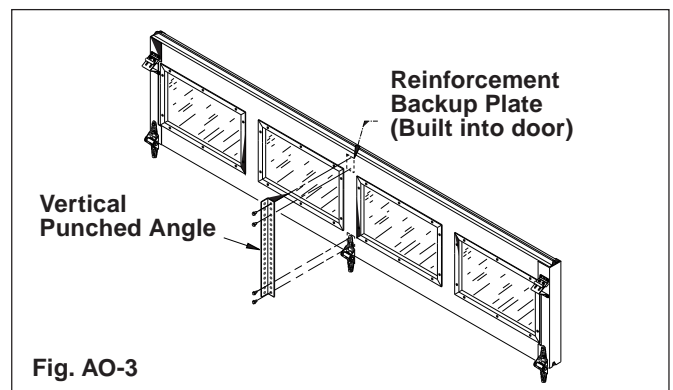

Fig. AO-3
You will need a 1 $\frac{1}{4}$ " x 1 $\frac{1}{4}$ " minimum punched angle at least 13 gauge or  $\frac{3}{32}$ " thick from your local hardware or building supply store. This punched angle ties in to reinforcing plates built in the door. These will be located directly under the pre-punched holes. The angles may need to be trimmed to fit the reinforcement holes and/or section height. Proper attachment requires #14 x  $\frac{5}{8}$ " sheet metal screws and at least two reinforcing plates being used. (FIG. AO-3 - AO-6)
**NOTE:** All reinforcing angles are to be attached with #14 x 5/8" sheet metal screws at the reinforcement back-up plate locations. (FIG. AO-3 – AO-6)